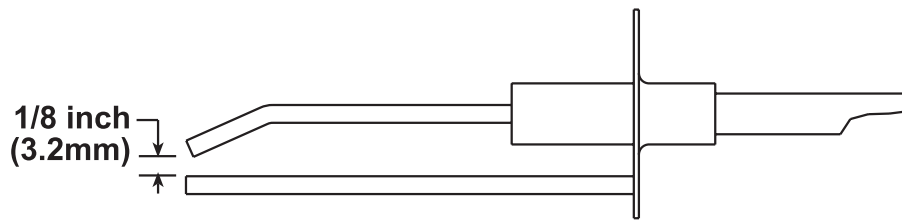

Figure 32. Ignitor Spark Gap
- The spark gap (see **Figure 32**) must be maintained to 1/8 inch.